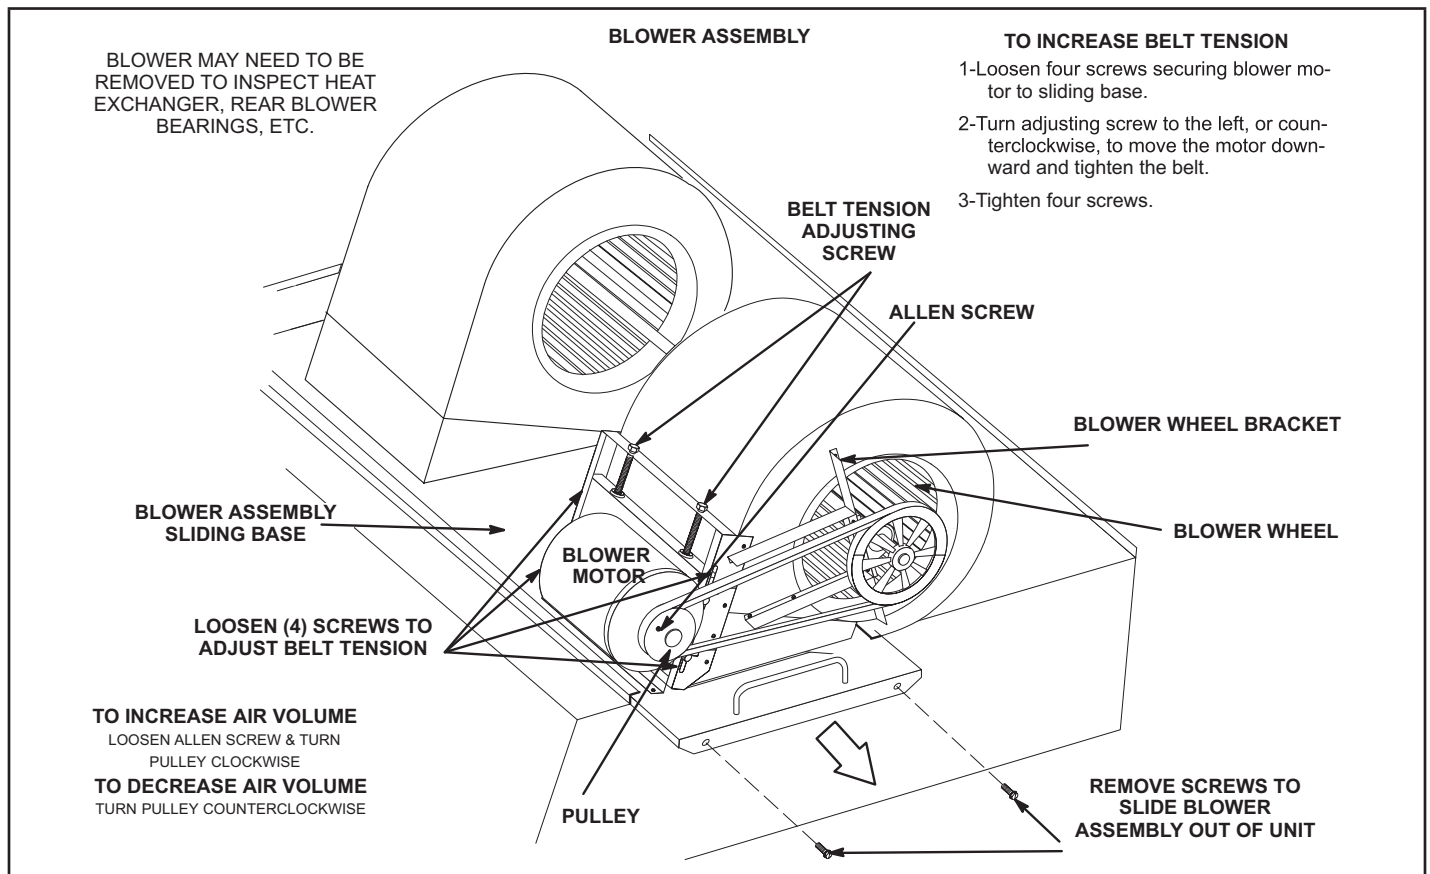

FIGURE 10
The blower compartment is located between the evaporator coil and the compressor / control section on the opposite side of the condenser coil. The blower assembly is accessed by disconnecting the blower motor wiring (and all other plugs) and removing the screws on either side of the sliding base. The base pulls out as shown in FIGURE 10.
- 4 - The blower RPM can be adjusted at the motor pulley. Loosen Allen screw and turn adjustable pulley clockwise to increase CFM. Turn counterclockwise to decrease CFM. See FIGURE 10. Do not exceed minimum and maximum number of pulley turns as shown in TABLE 5.
- 5 - The RPM can be adjusted at the motor pulley. Loosen Allen screw and turn adjustable pulley clockwise to increase RPM. Turn counterclockwise to decrease RPM. See FIGURE 10.
- 1 - Loosen four screws securing blower motor to sliding base. See FIGURE 10.